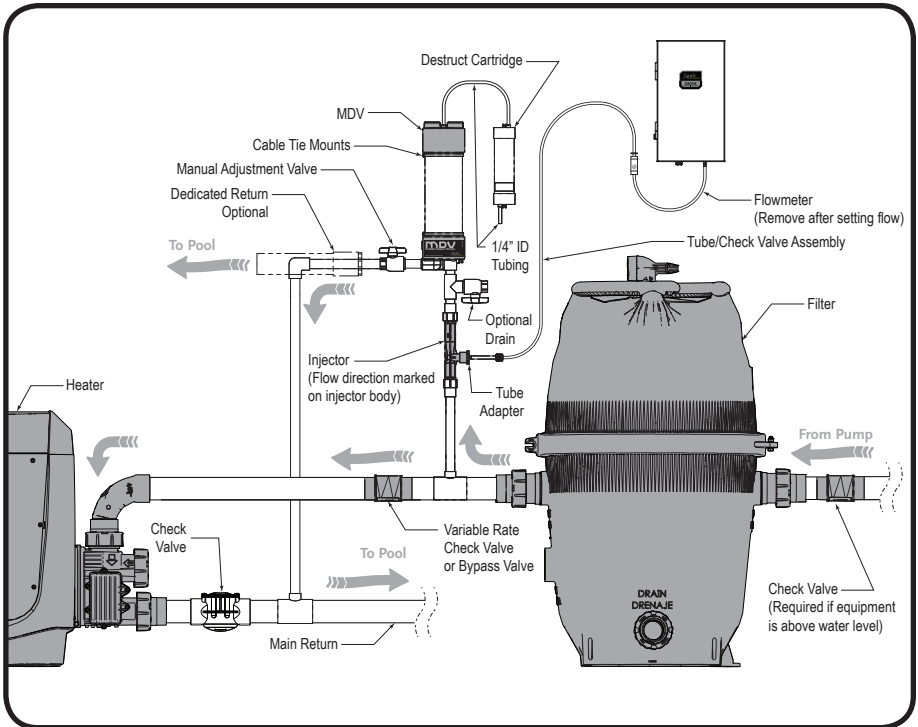

Figure 2. Plumbing Overview
- b. If applicable a direct return can be plumbed from the MDV to the pool. See "Figure 2. Plumbing Overview".